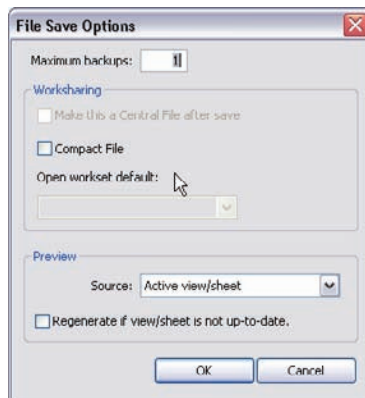

FIGURE 1.52 The options in the File Save Options dialog box let you specify the number of backups and the view for the preview.
3. In the File Save Options dialog, you'll see a place at the top where you can specify the number of backups, as shown in Figure 1.52. Set this value to 1.